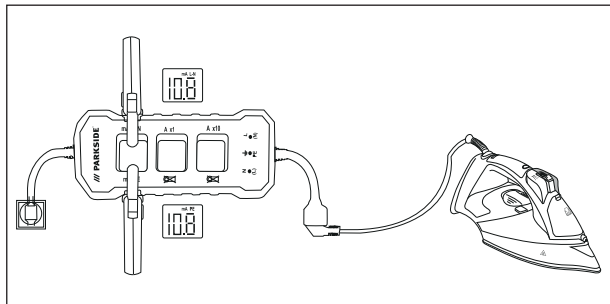

Fig. 2
- 4) Read the direct value of the leakage current (PE conductor) in the ring **mA PE 7** or the indirect value/differential value of the leakage current (L-N conductor) in the ring **mA L-N 1** (see Fig. 2).